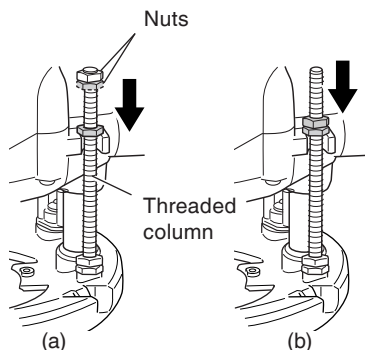

Fig. 6
- ④ Tighten wing bolt. Align the depth indicator with the "0" graduation of scale.
- ⑤ Loosen wing bolt, and raise until indicator aligns with the graduation representing the desired cutting depth. Tighten wing bolt.
- ⑥ Loosen the lock lever and press the tool body down until the stopper block to obtain the desired cutting depth.
- (2) As shown in Fig. 6 (a), loosening the two nuts on the threaded column and moving them down will allow you to move down to the end position of the bit when the lock lever was loosened. This is helpful when moving the router to align the bit with the cutting position. As shown in Fig. 6 (b), tighten the upper and lower nuts to secure the cutting depth.